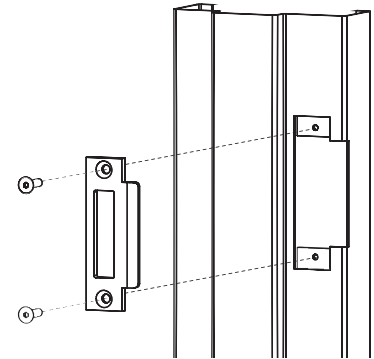

Figure 4
Install two (2) ¼-20 socket cap flat head screws. (Figure 4)